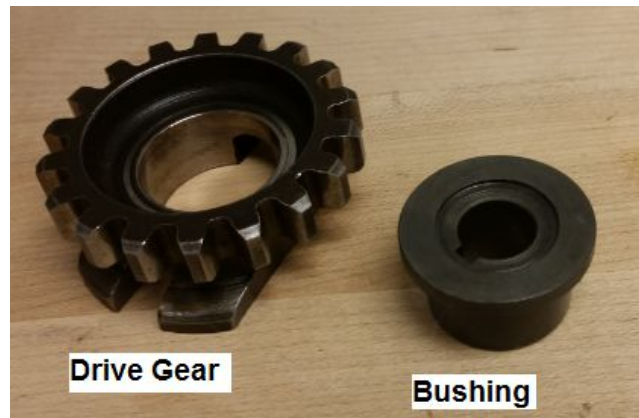

Figure 8: Magneto Drive Gear and Bushing
- k. If using MTH p/n EA-16000, **Remove and save** drive gear and bushing from the magneto being replaced. See Figure 8 for picture of drive gear and bushing.
- c. Place the drive gear obtained from the removed magneto onto the coupler. Then insert the bushing obtained from the magneto onto the shaft and drive gear while aligning with woodruff key. See Figure 8 for picture of drive gear and bushing.